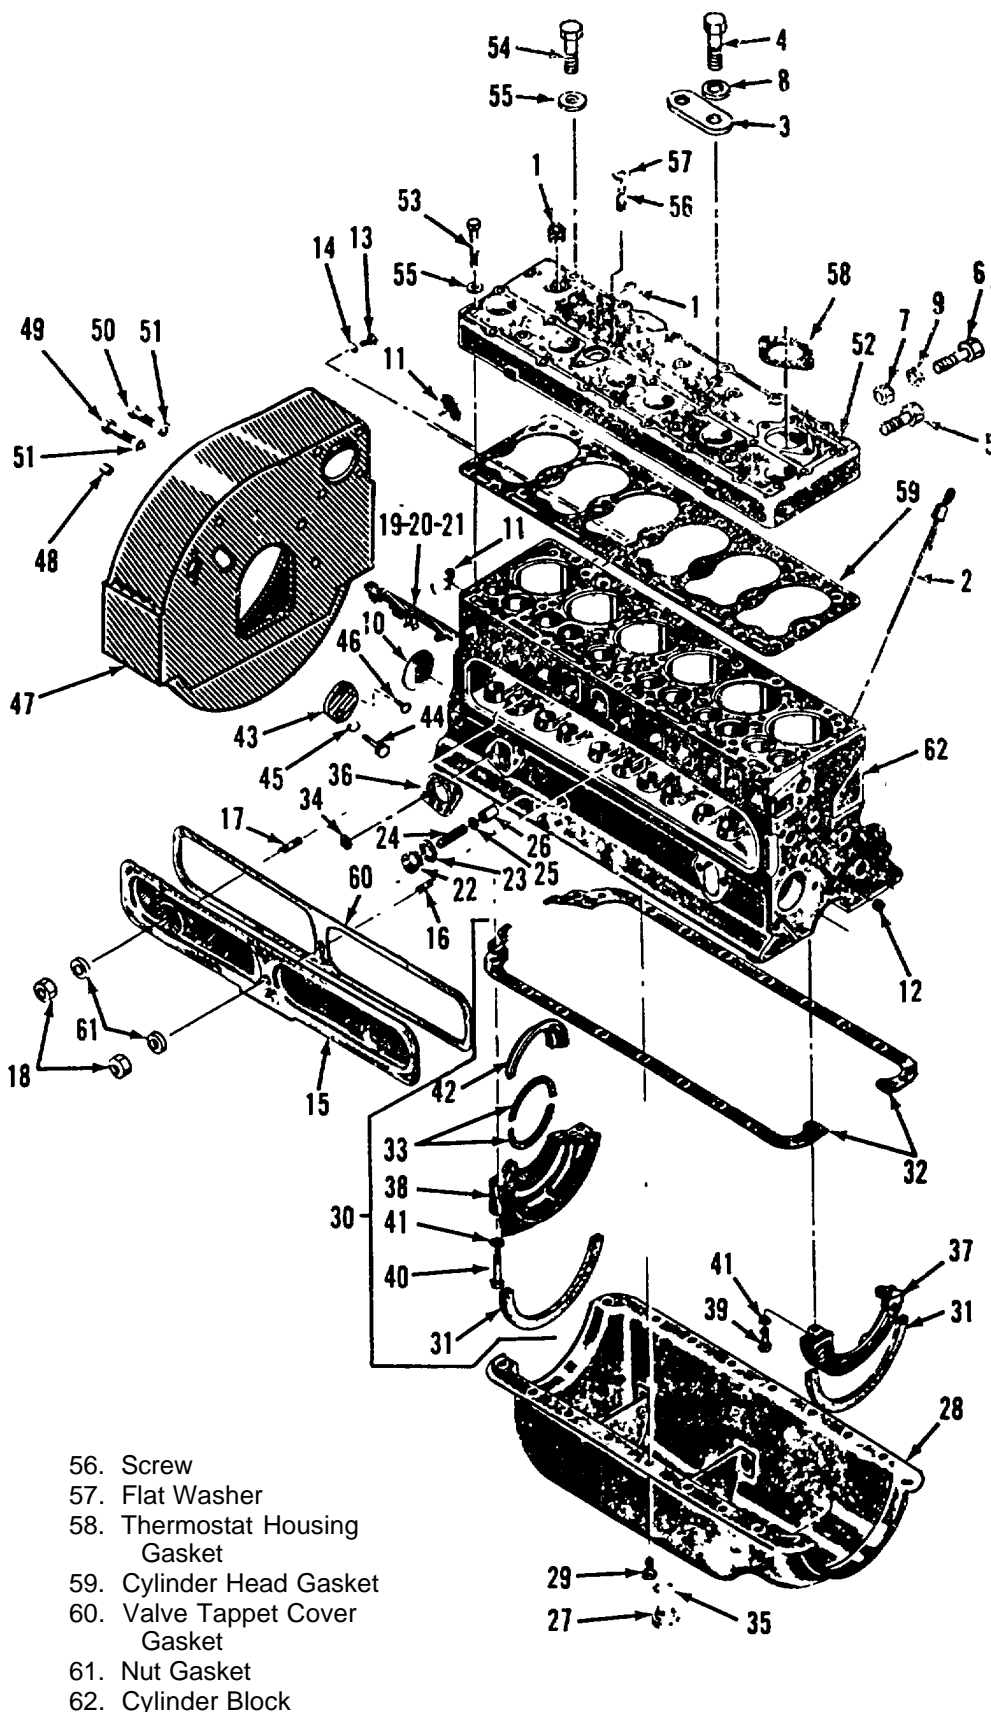
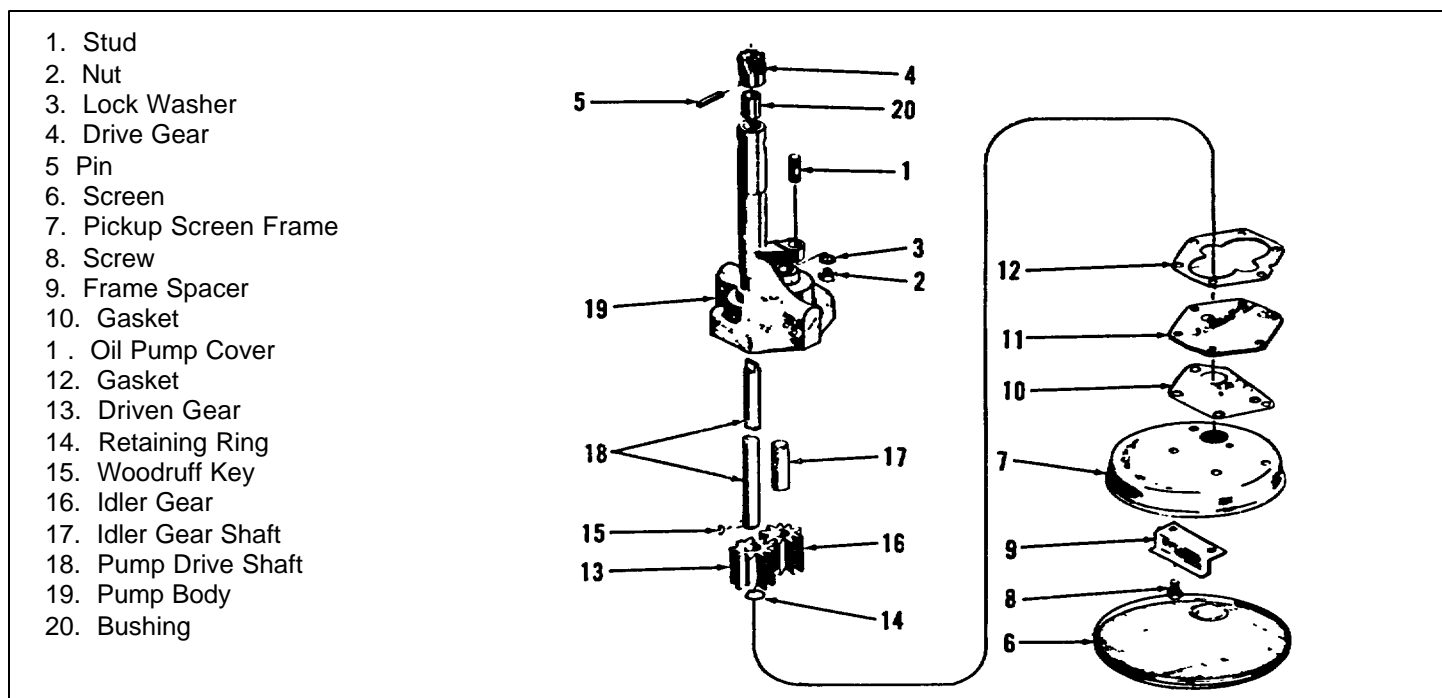

Figure 4-22. Engine Cylinder Block, Head and Oil Pan Group, Exploded View
Figure 4-26. Engine Oil Pump Assembly, Exploded View
1. Remove cylinder head screws (4, 53, and 54, figure 4-22) and washers (8 and 55), and remove cylinder head (52) and gasket (59) from engine cylinder block (62).
1. Remove stud nuts and lock washers and remove elbow (housing) (27 figure 4-22) and thermostat from cylinder head (52).
1. Remove valve chamber cover (15, figure 4-22).
1. Remove attaching screws (29, figure 4-22), and remove oil pan (28). Scrape old gasket (32) and seal remains from pan and block.
2. Remove screws (39) and remove front filler block (37) and seal (31).
3. Remove screws (40) and remove rear filler block (38) and seal (31). Remove half of seal (33) from filler block. Remove gaskets from engine block.
4. Remove oil guard (42) by pushing it around crankshaft and out of engine block. Remove second half of seal (33) from oil guard.
**4-94. REMOVAL.** Remove nut (2, figure 4-26) and washer (3). Remove oil pump body (19) and assembled parts from crankcase of engine block (62, figure 4-22).
1. Remove screen (6, figure 4-26), screw (8), frame (7), spacer (9), pump cover (11), gaskets (10 and 12), retaining ring (14), gears (13 and 16), key (15) and stub shaft (17).
2. Drive out pin (5) and remove gear (4), bushing (20) and drive shaft (18).
2. Mark flywheel (7) to crankshaft (37) relationship for reinstallation, and remove flywheel from crankshaft by use of jackscrews.
3. Remove cap screws (49 and 50, figure 4-22) and lock washers (51) that secure flywheel housing (47) to engine block (62).